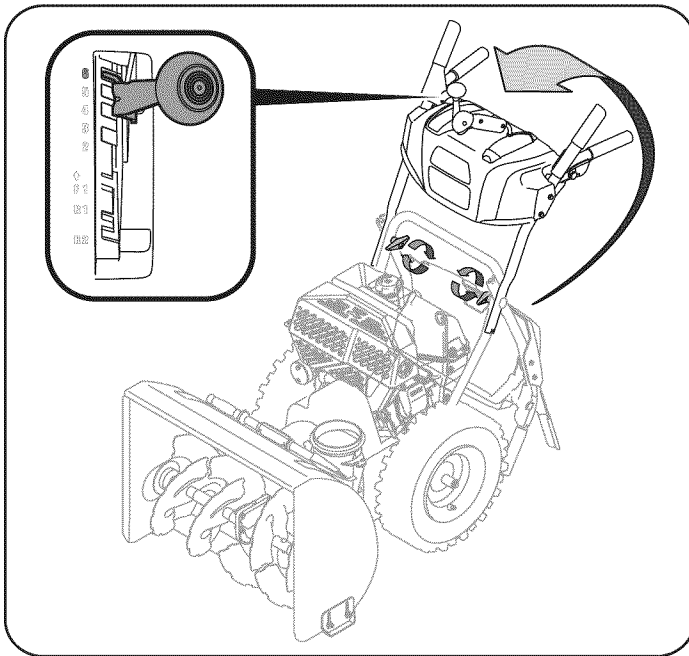

Figure 1
- a. Place the shift lever in the F6 position. See Figure 1 inset.
- b. Pull up and back on upper handle as shown in Figure 1. As you are raising the handle upward, make sure that both ends of the center cable are positioned properly in the brackets. Align upper handle with the lower handle.